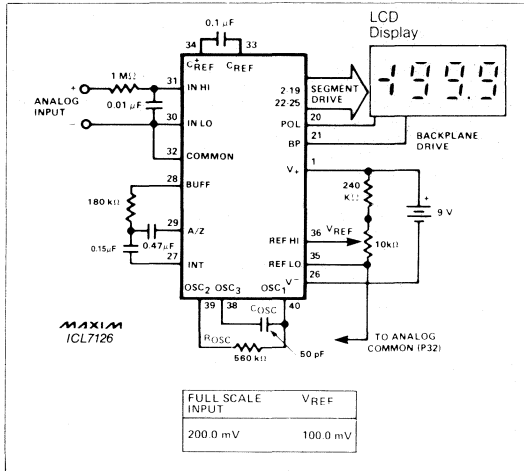

Figure 1. Maxim ICL7126 Typical Operating Circuit
**Note 3:** Unless otherwise noted, specifications apply at TA = 25°C, fCLOCK = 16kHz and are tested in the circuit of Figure 1.
(V+ = 9V; TA = 25°C; fCLK = 16kHz; test circuit - Figure 1; unless noted)
**Note 8:** Test condition is VIN applied between pins IN-HI and IN-LO. i.e., 1MΩ resistor in Figure 1.
**Note 12:** 1MΩ resistor is removed from circuits in Figure 1.